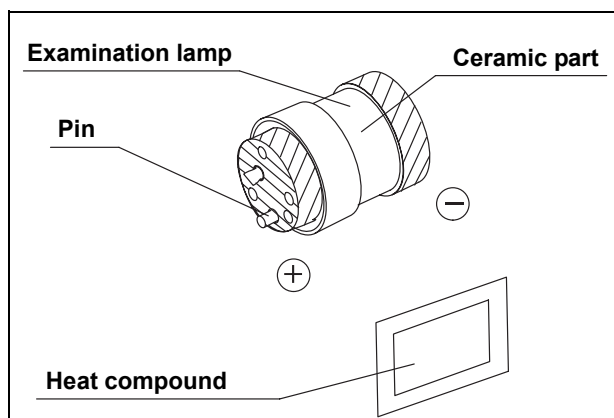

Figure 6.5
10. Using your finger, apply the heat compound evenly over the outer circumference (see the cross-hatched area in Figure 6.5) on the “–” side of the new examination lamp (the metal portion on the light emitting side).
11. Insert the “–” side of the examination lamp (see Figure 6.5) into heat sink (A) until it stops.
12. Apply heat compound to the end surface (see the cross hatched area in Figure 6.5) on the “+” side of the examination lamp in the same manner.
13. Insert the “+” side of the examination lamp (see Figure 6.5) into heat sink (B) and tighten the three bolts firmly with the hexagon wrench.